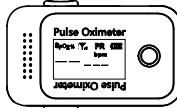

Figure 10
3. When there is no finger inserted, the invalid value "— — —" will be displayed on the screen, as shown in Figure 10.